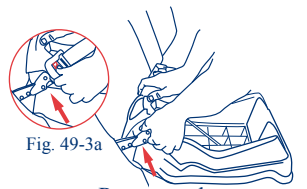

Fig. 49-3a
- 15.3.7) To remove the base from the vehicle, squeeze the webbing release button on the LATCH connector to loosen the webbing. See figure 49-3a. Please note that the LATCH connector can not be released from the LATCH anchor if the webbing is tight. Press the LATCH hook release button on each connector to release the connector from the anchor. See figure 49-3b.